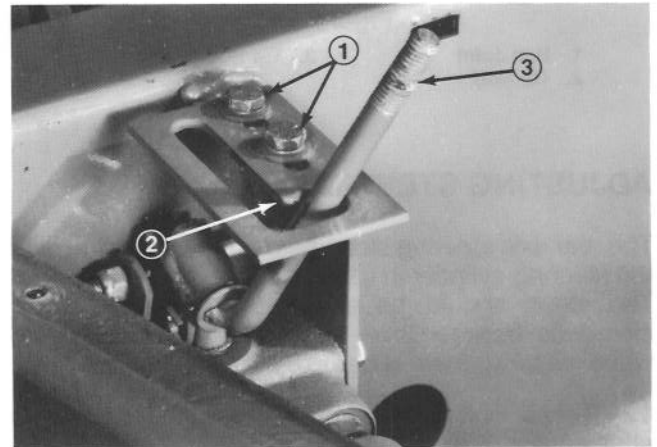

Figure 62
3. Loosen two capscrews on top of the lift lever latch (Fig. 62). Place lever on rounded tip of latch (Fig. 62), and slide latch w/lever forward until stopping resistance is felt. Then tighten capscrews to lock the latch in place. Check for free operation of the lift lever by moving lever from RAISE or TRANSPORT to FLOAT position. Lift lever should just clear rounded position of latch as lever is moved into FLOAT position.